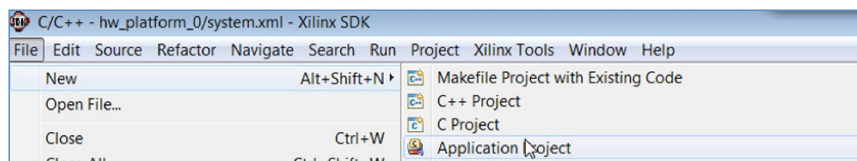

Figure 43: File->New->Application Project
2. From the SDK window **Select “File > New > Application Project” (Figure 43).**